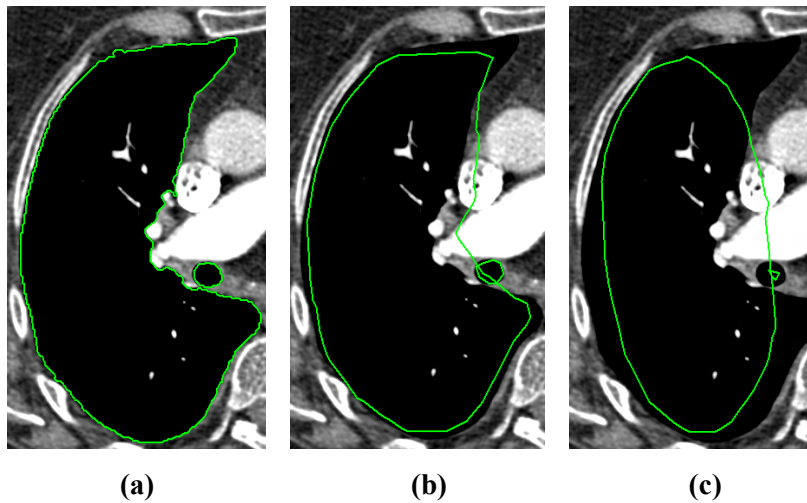

Figure 251 – (a) Source ROI, (b) smoothen ROI (1st applied), (c) smoothen ROI (5th applied)
4. Click the **Apply** button as many times as necessary to achieve the desired setting. The result is immediately displayed in the current view (see Figure 251).